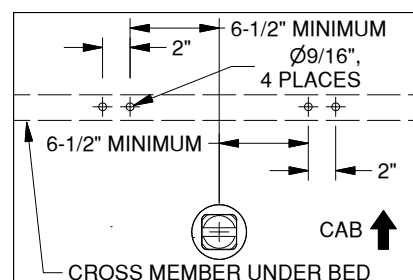
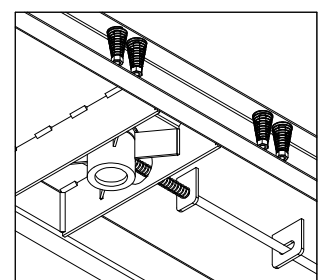

Figure 8
Figure 9
5. **Install safety chain loops.** Identify locations for the safety chain loops. The loops need to be placed a minimum distance of 6-1/2" on each side of the truck's center line. If using this kit with a B&W Flatbed Companion hitch, place the safety chain loops 9" from the center line. The loops need to be placed slightly ahead of the socket. Placing the holes in a truck bed cross member is ideal. Drill two 9/16" holes on 2" centers on each side of the socket assembly, see Figure 8. Drop the safety chain loops through the holes and attach a spring and lock nut to each leg. Tighten the lock nuts until they are flush with the bottom of the U-bolt, see Figure 9.